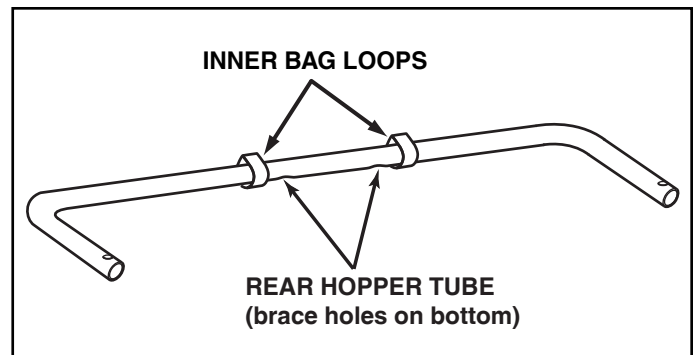

FIGURE 11
STEP 10: (SEE FIGURE 11 AND 12)